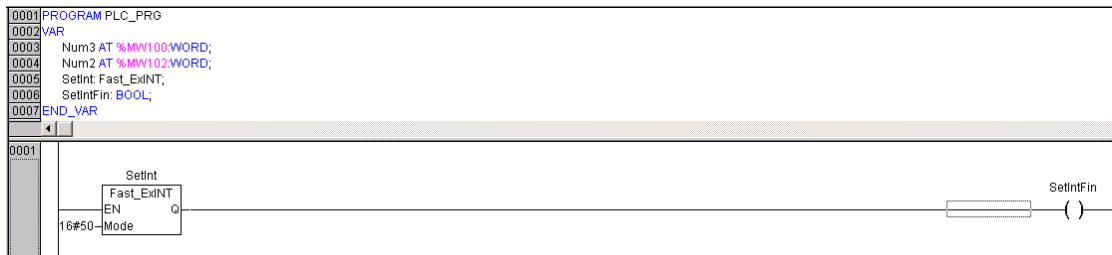

Figure B-4-1
- (1) First add Hollysys_PLC_Ex_ExINT.lib to library manager, see section 1.5 for details.
- (2) According to the requirements, I0.6, I0.7 generate an interrupt when reach a rising edge and I1.0 is not used, so for Fast_ExINT, the Mode=16#50, the variable declaration in main program and ladder diagram are shown in figure B-4-1.